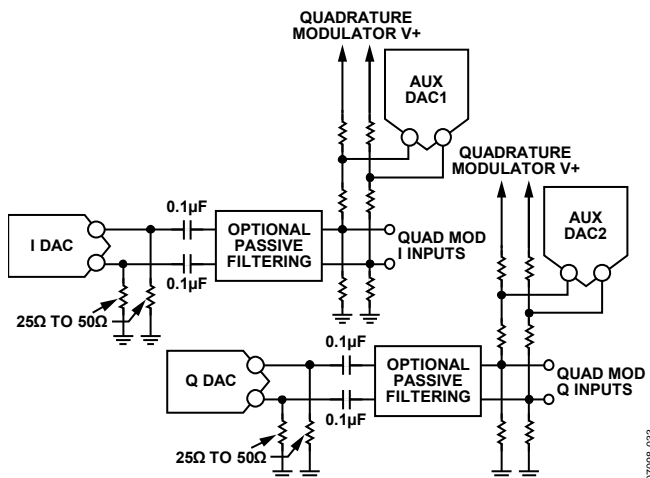
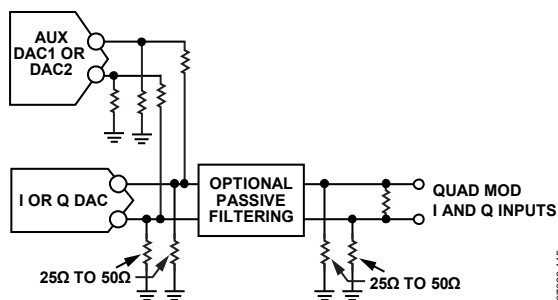

Figure 72. Typical Use of Auxiliary DACs AC Coupling to Quadrature Modulator
Figure 73. Typical Use of Auxiliary DACs DC Coupling to Quadrature Modulator with DC Shift
The auxiliary DACs can be used for local oscillator (LO) cancellation when the DAC output is followed by a quadrature modulator. This LO feedthrough is caused by the input referred dc offset voltage of the quadrature modulator (and the DAC output offset voltage mismatch) and can degrade system performance. Typical DAC-to-quadrature modulator interfaces are shown in Figure 72 and Figure 73. Often, the input common-mode voltage for the modulator is much higher than the output compliance range of the DAC, so that ac coupling or a dc level shift is necessary. If the required common-mode input voltage on the quadrature modulator matches that of the DAC, then the dc blocking capacitors in Figure 72 can be removed.
A low-pass or band-pass passive filter is recommended when spurious signals from the DAC (distortion and DAC images) at the quadrature modulator inputs can affect system performance. Placing the filter at the location shown in Figure 72 and Figure 73 allows easy design of the filter, as the source and load impedances can easily be designed close to 50  $\Omega$ .